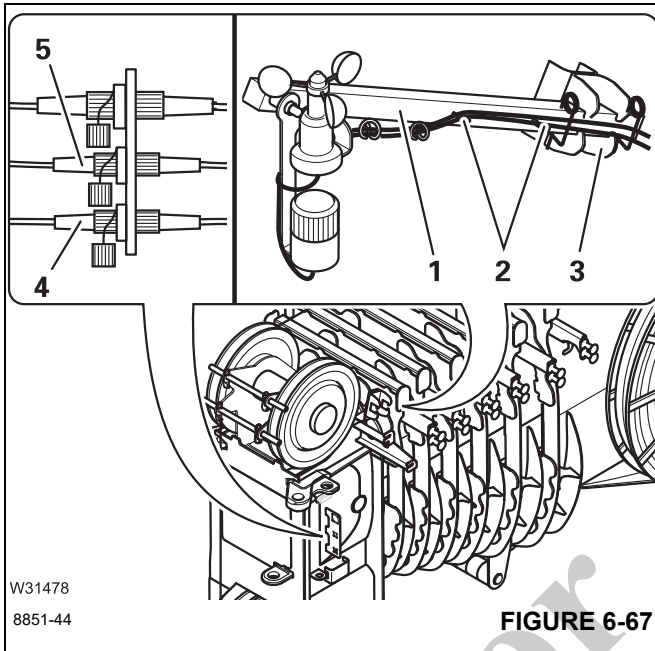

FIGURE 6-67
- Insert the rod (1), (Figure 6-67) into the holder (3), and secure it with the retaining pins.
- Remove the cable from the holders (2), (Figure 6-67) and connect:
- the anemometer to socket (4), (Figure 6-67).
- the boom position indicator light to the socket (5), (Figure 6-67).